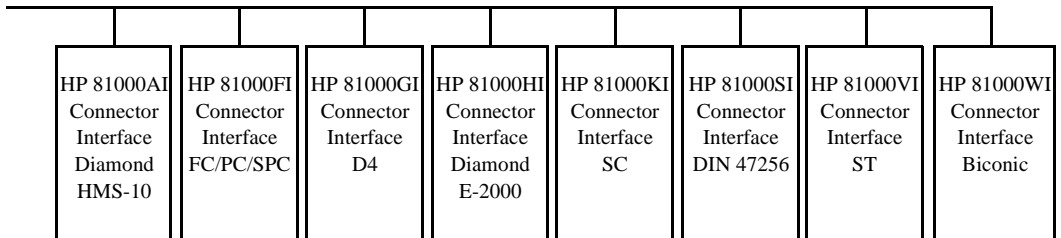

Figure B-2
- 2 Connect your cable (see Figure B-2).